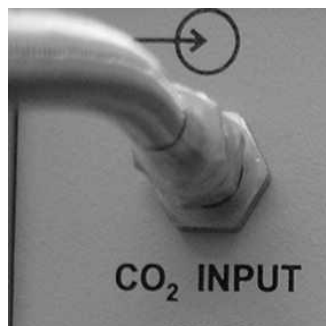

Figure 9.5
3. Remove cap from the CO₂ Input port on back of Insufflator. Tighten the other end of the High-Pressure Hose to the CO₂ Input port on the back of the Unit using a 9/16" Open-Ended wrench (see Figure 9.5).